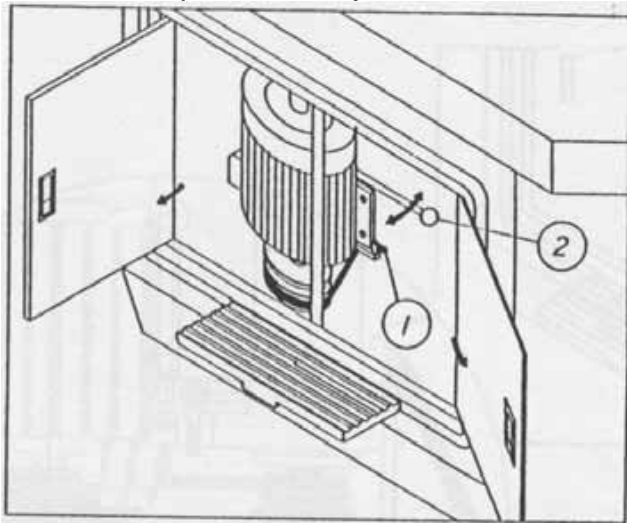

Fig. 10 Belt Loose/Tight Adjustment
First, open machine door, loosen bolt (1) shown as Fig. 10 and pull handle (2) out. Then, adjust two belt wheels according to the standard of Fig. 11. Move the two belts on the pulleys. (Upper belt pulley speed 5500 rpm; Lower belt pulley speed 9500 rpm). Tighten bolt (1) in Fig. 10 after completion of adjustment.